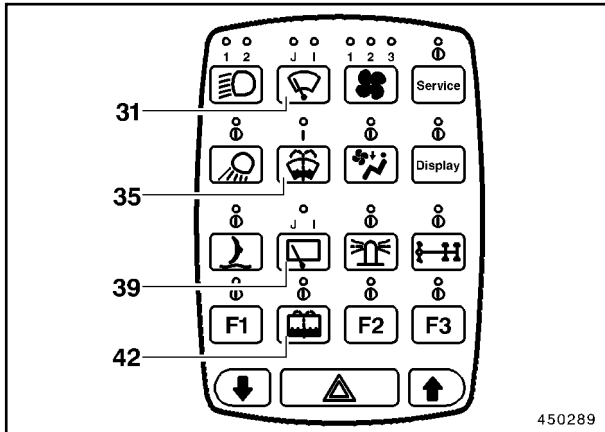

Fig. 1
The windscreen wiper can be used in the permanent and intermittent wiping mode. The windscreen wiper is operated with key (31, Fig. 1).